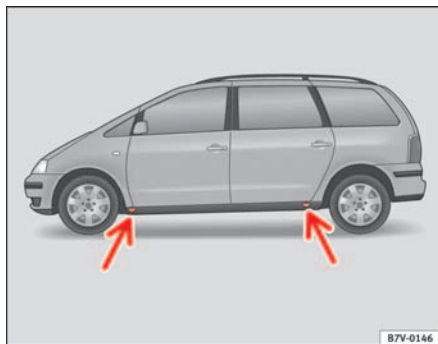

Fig. 160 The jacking points
1. Look for the jacking point ⇒ fig. 160 (arrow) ⇒ ⚠ closest to the tyre which has to be changed.
The jack may be applied only at the jacking points shown ⇒ fig. 160. The front jacking point is approx. 4.33 in from the wheel arch. The rear jacking point is approx. 5.51 in from the wheel arch. Notches on both sides in the sills show where the jacking points are under the vehicle.